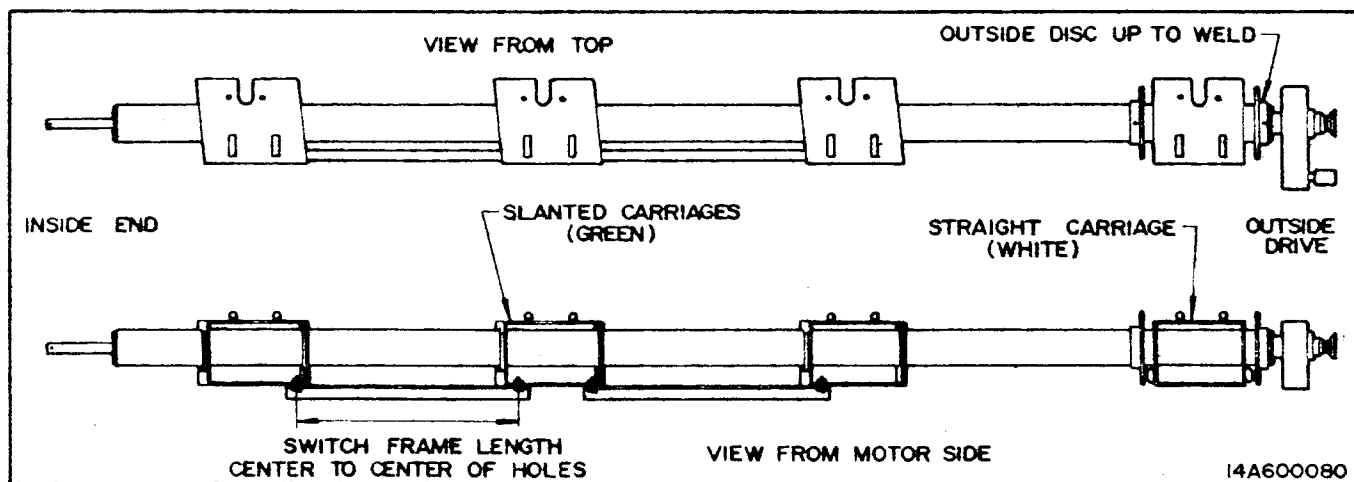

FIG. 4 - SWITCH FRAMES - OUTSIDE CARRIAGE
- Slide slanted green carriages off inside end of crosstube. Slide one 7" disc (hub first) onto crosstube all the way to outer end of tube. Bolt in place. Slide white stationary carriage on beside disc. Slide other disc (hub last) next to stationary carriage and bolt down. See Fig. 4.
- Slide slanted green carriages back onto crosstube. IMPORTANT: Make sure slanted and stationary carriages have slot for down auger towards front of crosstube and that slanted carriages all slant the same way to the left. See Fig. 4.
- Completely disassemble switch frame bundle into individual parts. Bolt switch frames between slanted carriages with 5/16 x 1" bolts. See Figs. 4 and 5. Switch frames will have several holes punched in them. Use pair of holes that provide correct spacing between carriages as found on Table 1.